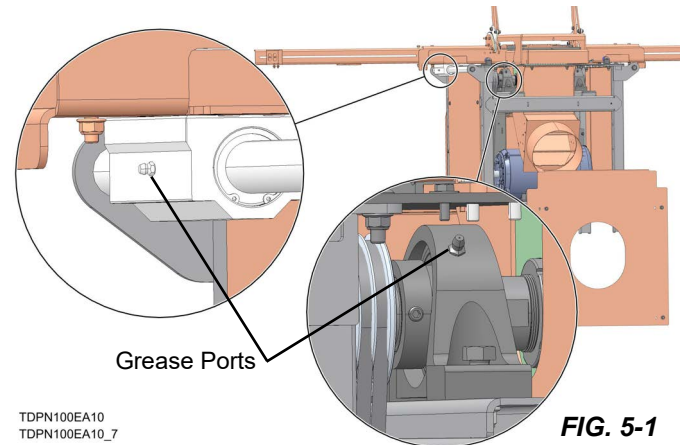

FIG. 5-1
2. Remove (4) bolts from rear panel.
4. Apply Lithium-based NLGI #2 grease through 2 integrated grease ports on either side of the notching head as shown in FIG. 5-1.